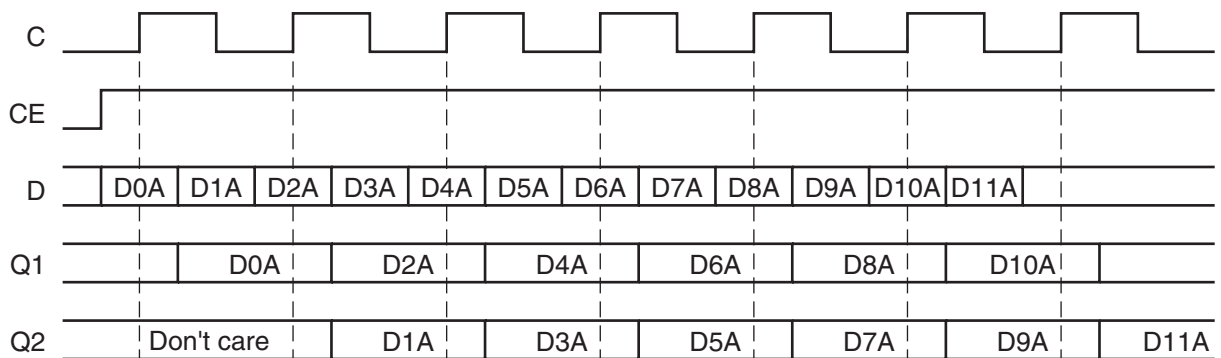

Figure 7-5: Input DDR Timing in SAME\_EDGE Mode
By adding the third register, data is presented into the FPGA fabric on the same clock edge. However, the additional register causes the data pair to be separated by one clock cycle. Figure 7-5 shows the timing diagram of the input DDR using the SAME\_EDGE mode. In the timing diagram, the output pairs are no longer (0) and (1). Instead, the first pair presented is pair (0) and (don't care), followed by pair (1) and (2) on the next clock cycle.